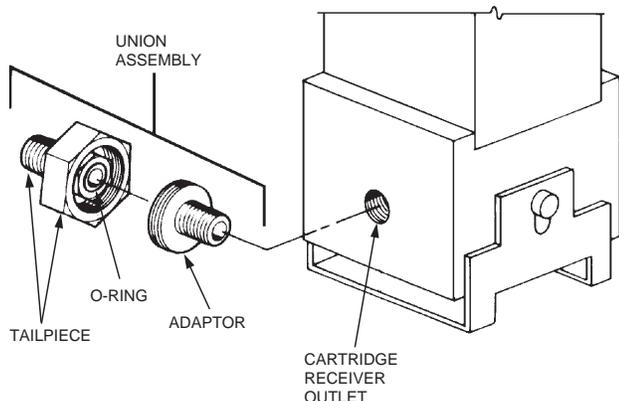

FIGURE 9
7. With union fully assembled, install adaptor portion of union into cartridge receiver outlet. (Union must be assembled to provide a hex for wrench tightening.) See Figure 9 to identify adaptor portion of union.